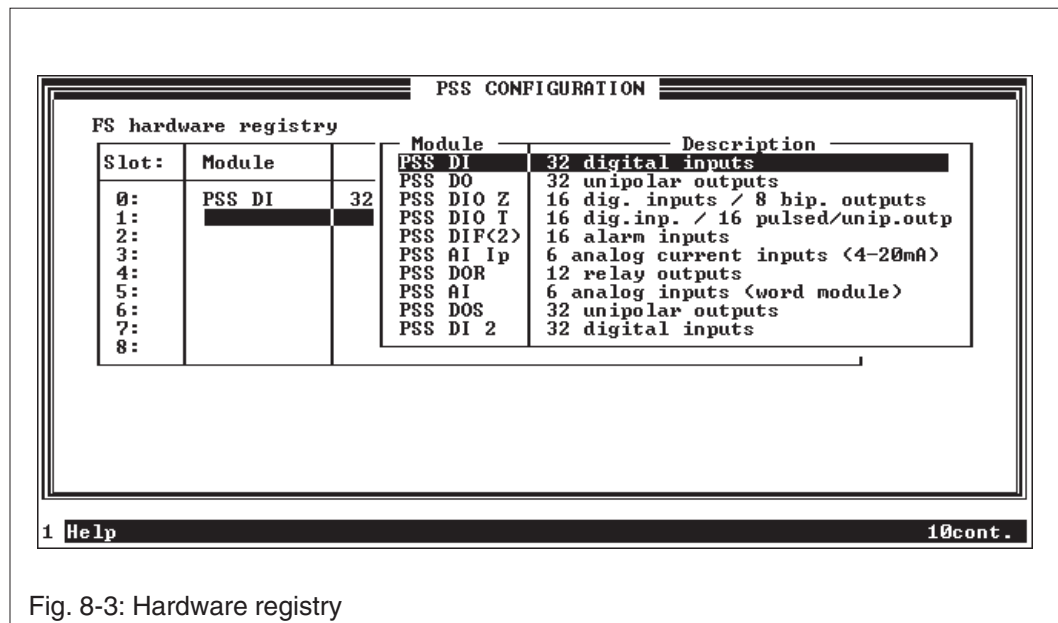

Fig. 8-3: Hardware registry
- Select "Hardware registry" from the "Configuration" menu. A dialogue box will appear (Fig. 8-3). The contents will depend on which PSS type has been selected.